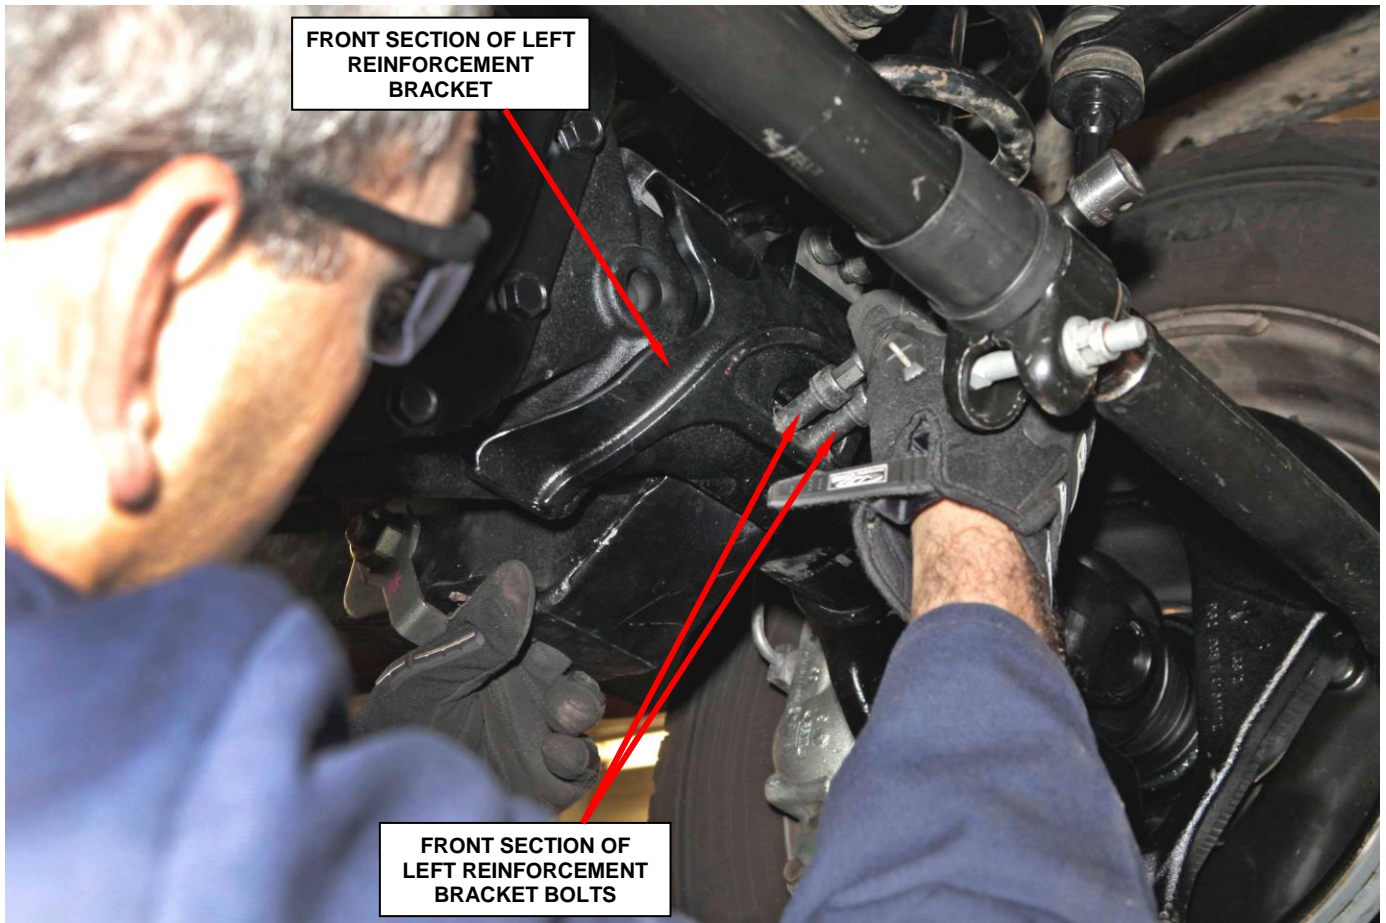

Figure 22 – Install Front Reinforcement Bracket Lower Retaining Bolts (hand tight)
- d. Install the front reinforcement bracket lower retaining bolts, hand tight only (Figure 22).